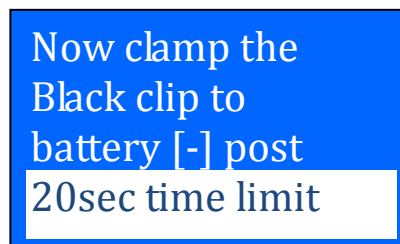

Figure 35
8. Once it has finished analyzing, it will prompt you with an instruction (Fig. 35) stating that you should unclamp the Black tester clip from the engine or chassis body and transfer to the battery negative [-] terminal within 20 seconds time limit if not the testing procedure has to be repeated again as the gathered data will be lost.